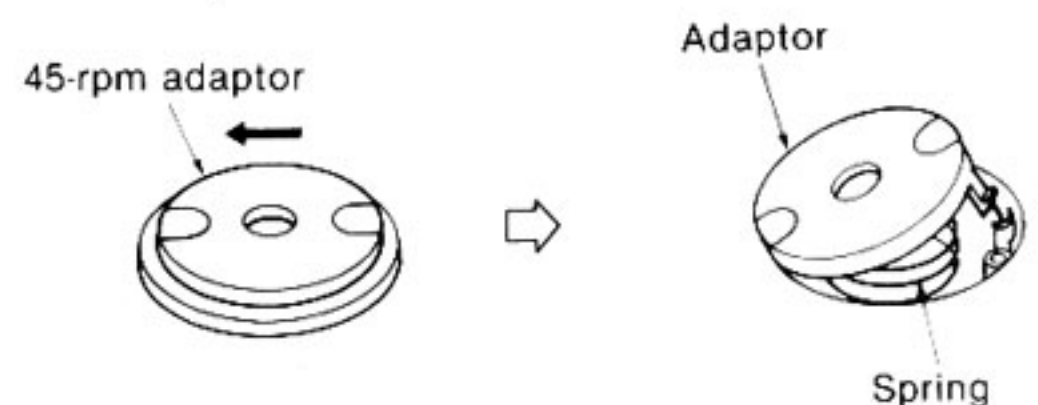

Fig. 3
2. The 2 adaptor claws fit into the turntable platter, and so remove the 45 r.p.m. adaptor by pushing it in the direction of the arrow. (Fig. 3)